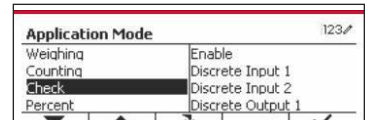

Figure 62
2. With the button corresponding to the ▼ icon, go down the list and highlight Application Mode. Enter this submenu by pressing the button corresponding to the ✓ icon. (See Figure 62)